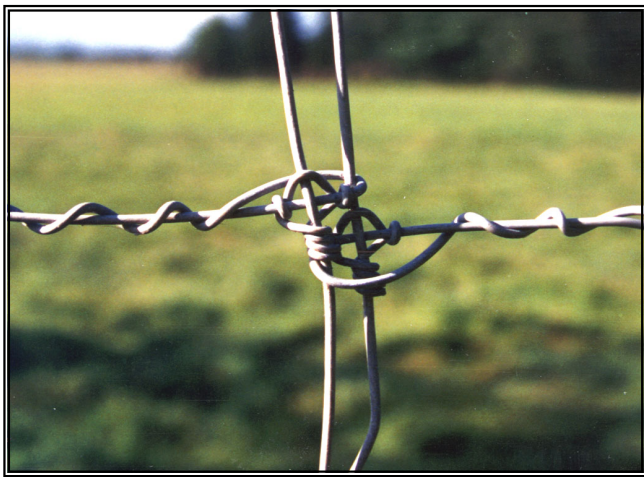

Figure 4 Splicing Woven Wire
- Join woven wire by using a wrap-splice, Figure 4 below. Leave 4 to 6 inches of line wire beyond the end stay. Lay together the end stay wires of each of the two sections to be spliced, then wrap the free ends tightly around the line wire with pliers or splicing tool.